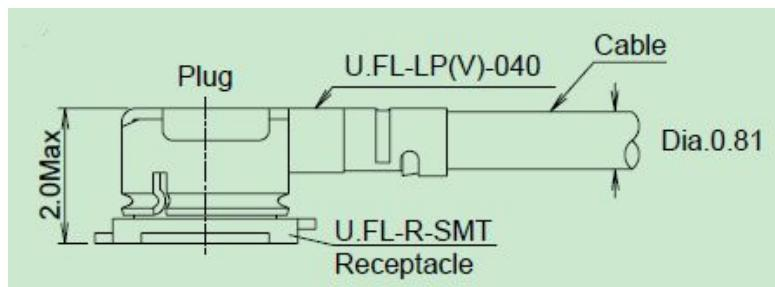

Figure 24: U.FL series RF adapter cable
To get good RF performance in user's design, SIMCom suggests user to use the matching RF adapter cable which is also supplied by HRS (Part Number: U.FL-LP (V) -040), the following figure (Figure 24) is the dimensions of U.FL series RF adapter cable. User can contact SIMCom for more information.